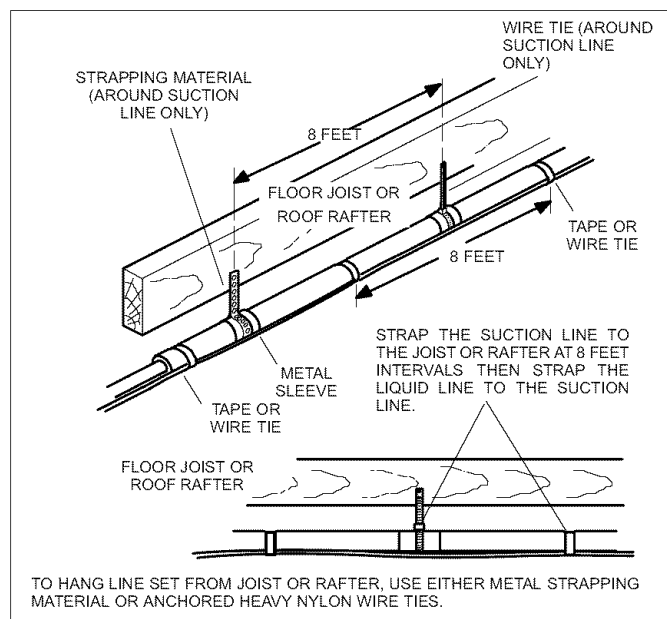

Figure 15. Refrigerant Line Set: Installing Horizontal Runs
- Installation of **line set on horizontal runs** is illustrated in figure 15.